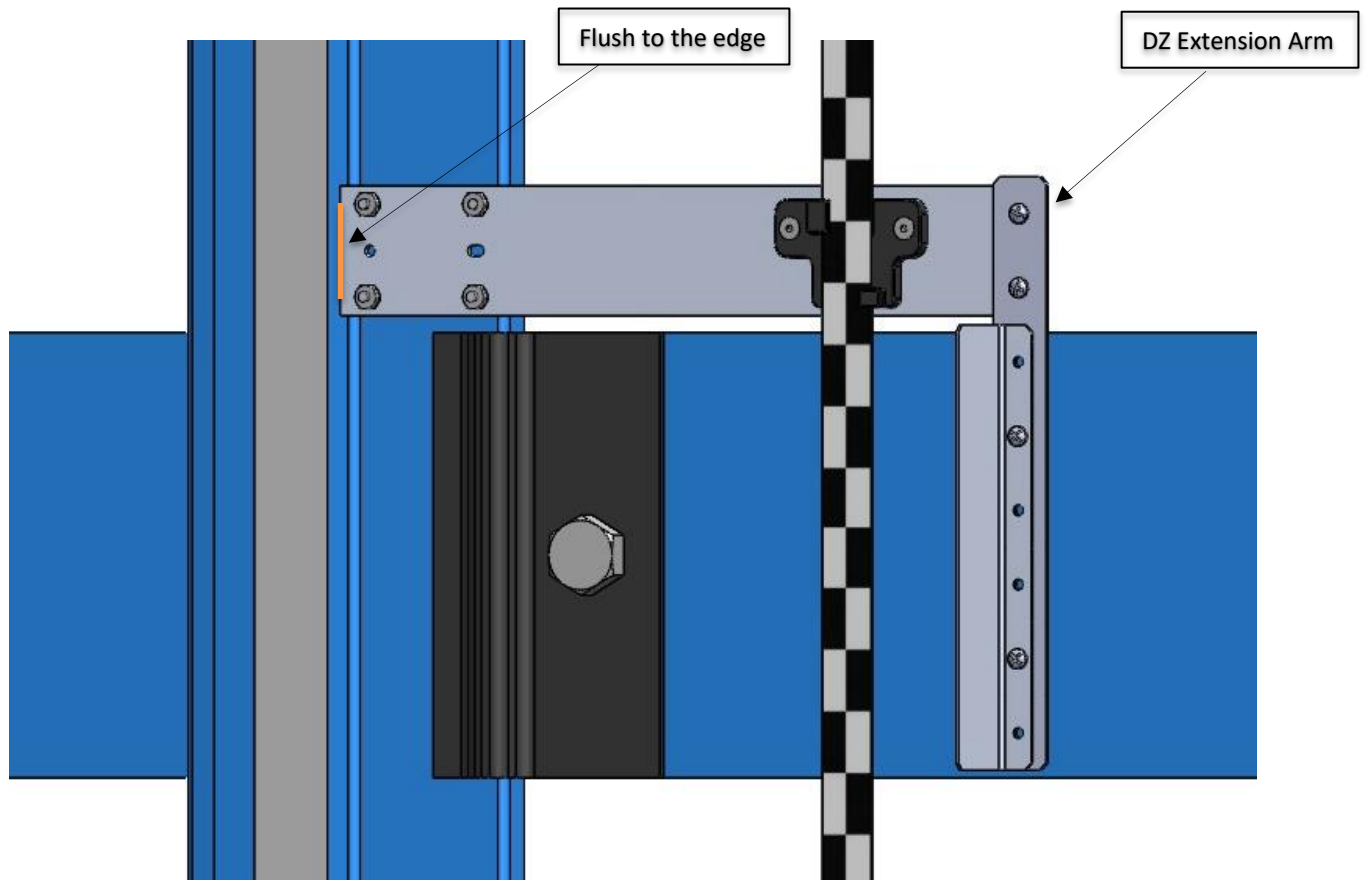

Figure 17: DZ Extension Arm
- To install the extension arm, remove the DZ Blade from the Tape Clip assembly and install Door Zone Extension Arm using the same screws, nuts and washers, as shown in figure 17.